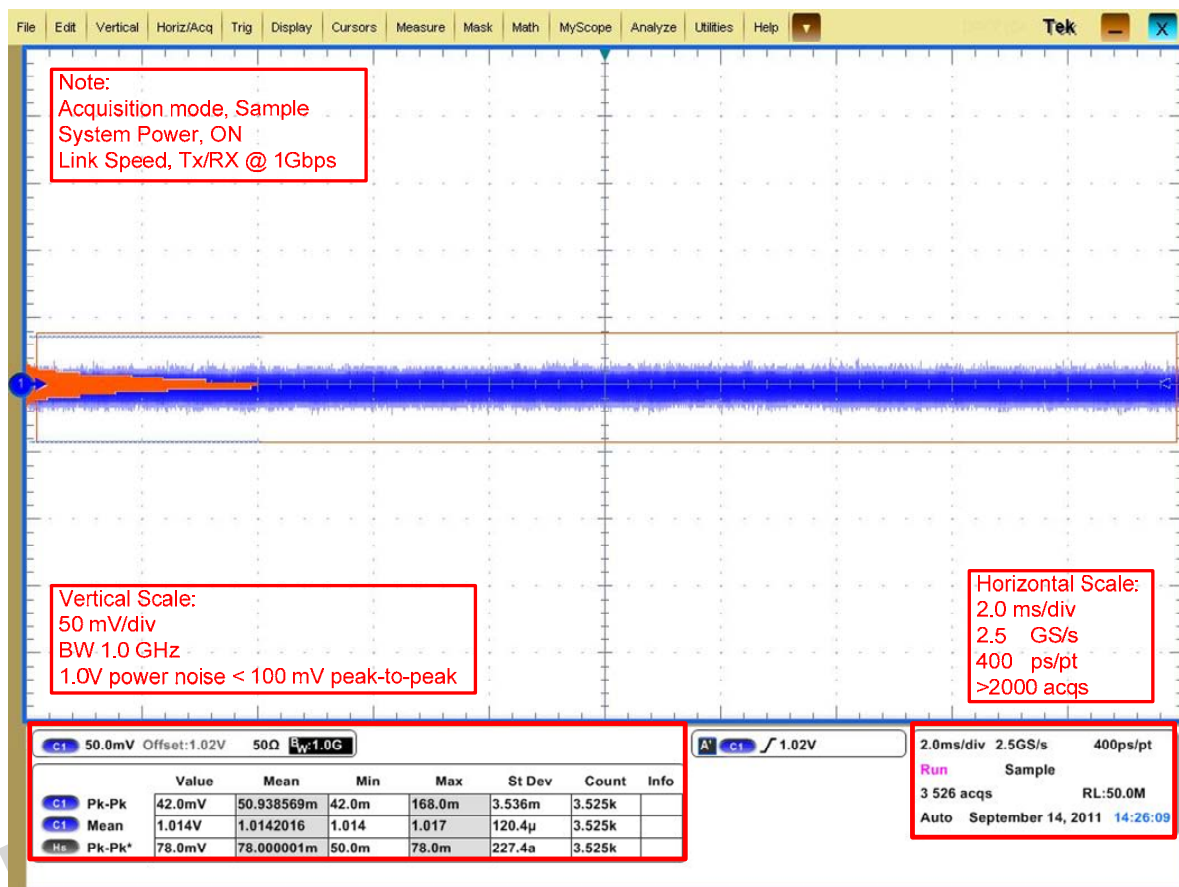

Figure 5. Measurement Criteria of 1.0V Power Noise
- 1.0V Power Noise < 100mV peak-to-peak (Figure 5)